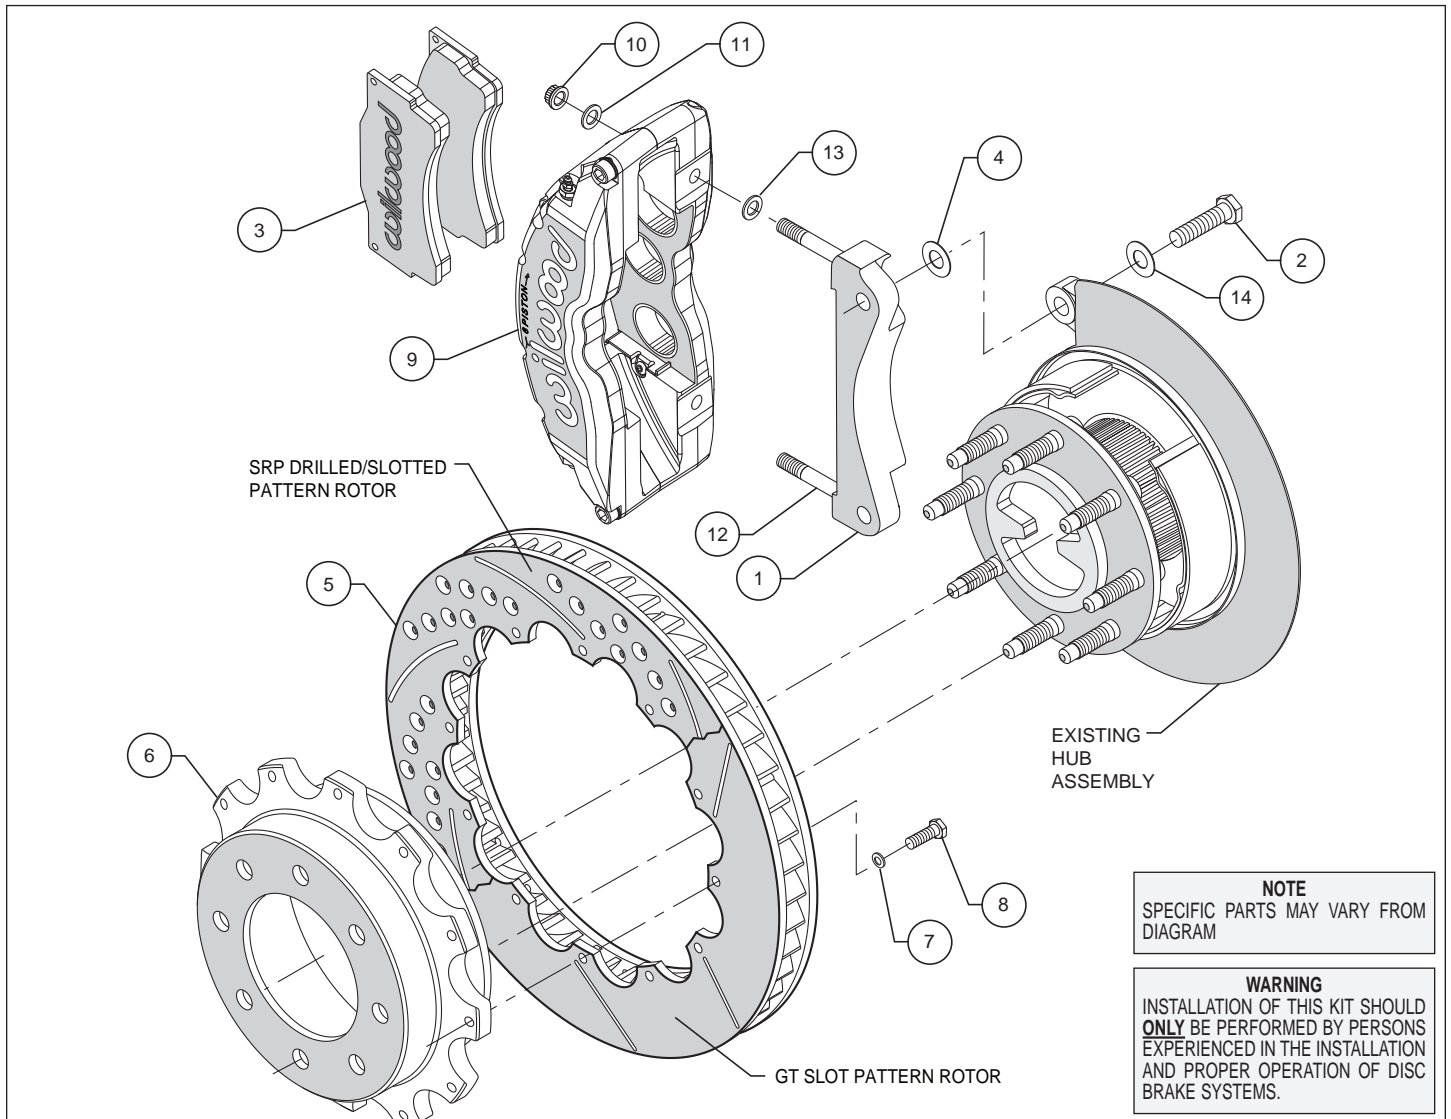
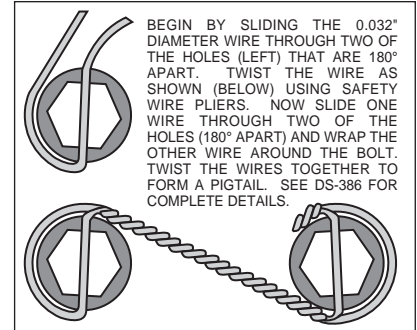

Figure 1. Typical Installation Configuration
Figure 3. Safety Wire Diagram
- The caliper mount bracket assembly (1) should be installed first with clean, dry threads on the mounting bolts (2). Install the bracket by sliding bolt (2) through washer (14) from the rear side of the hub through the OEM caliper mounting bracket ears, then through an additional shim washer (4) and into the bracket (1). The bracket must tighten squarely against the outboard side of the caliper mount bosses on the upright. Inspect for interference from casting irregularities, machining ridges, burrs, etc. Use one shim (4) between the bracket and upright during initial trial fitting. Later, after the caliper, pad, and rotor alignment have been checked, and any necessary shims have been put in place, the mounting bolt threads (2) should be coated with red *Loctite*® 271 and torqued to 95 ft-lbs.
- Attach the rotor (5) to the hat (6) using bolts (8) and washers (7) as shown in Figure 1. Using an alternating sequence, remove bolts one at a time, apply red *Loctite*® 271 to the threads, and torque to 198 **in-lbs**. Safety wire the bolts using standard 0.032 inch diameter stainless steel safety wire as shown in Figure 3. Please refer to Wilwood's data sheet DS-386 for complete safety wire installation instructions.
- Lubricate caliper mounting studs and nuts with lightweight oil. Install one shim (13) over each stud (12) on the radial mount bracket (1). Slide the caliper (9) in place over the studs and rotor and install the washers (11) [up to 4 may be required on each side to keep the lock nut from bottoming out on the stud], and lock nut (10) to hold the caliper in place. The caliper bleed screws should be pointing up. Snug the lock nuts (10) and check that the rotor (5) is centered in the caliper (9). Add or subtract .029" shims (4) as necessary between the caliper mount bracket and the caliper mount bosses on the upright assembly to center the caliper.
- Remove the two caliper center bridge pad retainer bolts, nuts, and tubes from the caliper. Slide the brake pads (3) into place. They should install easily without interference. Check that the outside radius of the brake pad is aligned with the outside diameter radius of the rotor face. Add or subtract shims (13) between the caliper and mount bracket to gain the proper alignment. Reinstall the two center bridge pad retainer tubes, bolts, and lock nuts. The locknut should be snug without play in the bolt or tube. Be cautious not to over tighten.
- Once all clearances have been checked, remove the wheel, caliper and rotor from the axle flange. Secure the caliper mounting bracket (1) to the axle flange body with bolts (2) while coating the threads with red *Loctite*® 271. Torque the bolts to 75 ft-lbs. Reinstall the rotor and again use several lug nuts to hold it in place. Reinstall the caliper, torque the caliper nuts (10) to 47 ft-lbs.